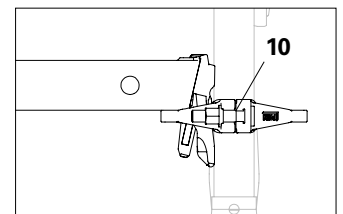

Fig. A5.03a
2. Fix Rosett Coupler (10) to the legs of the stacking frame. (Fig. A5.03a)